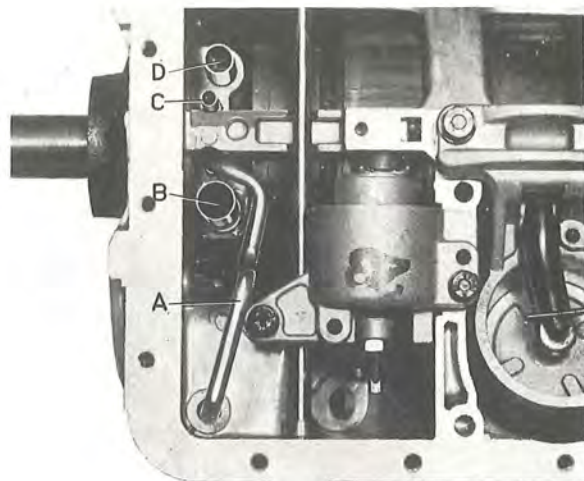

Fig. 4-117. Location of oil tubes, front of gearbox
24. Fit the oil tubes for the pump and converter on the front pump, see Fig. 4-117. Do not forget the O-ring for the pump inlet tube.